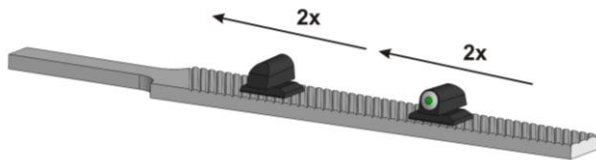

Figure 1
- 5) Using a fine file or emery paper on a flat surface, remove steel from the bottom of the Express Sight until it will enter the dovetail halfway. (See Figure 1) Do not file the dovetail (A) shorter than the depth (B) noted in Figure 2. If the sight still does not fit, but you have reached the minimum height, move to step 6; otherwise, skip to step 7.